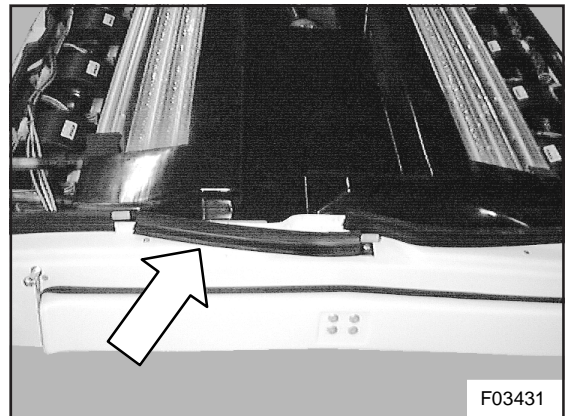

Figure 3: Weatherstrip removal
5. On the roof of the coach, remove the weatherstrip from the evaporator compartment edge closest to the air intake flap (see figure 3).